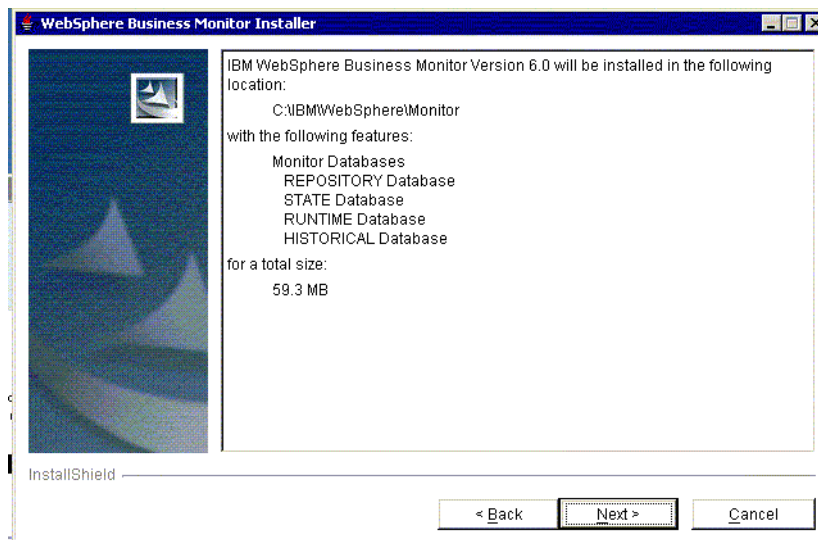

Figure B-7 Monitor Server installation: Database summary
- ▶ A summary panel is displayed before the databases are created (Figure B-7).